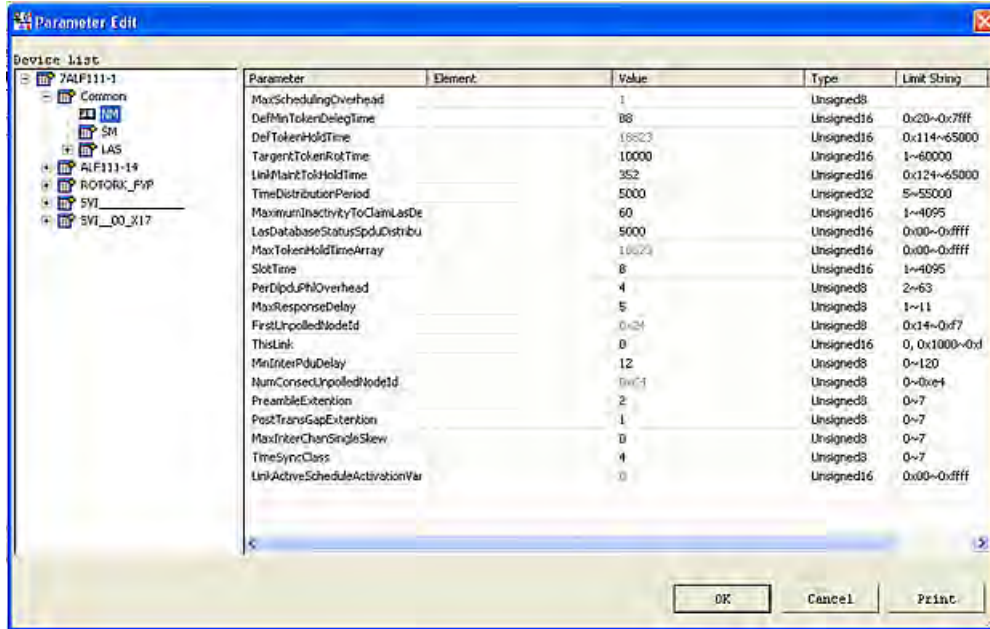

Figure 74 Network Management Parameter List
- Click **OK** to accept the settings and close the window (Figure 74).